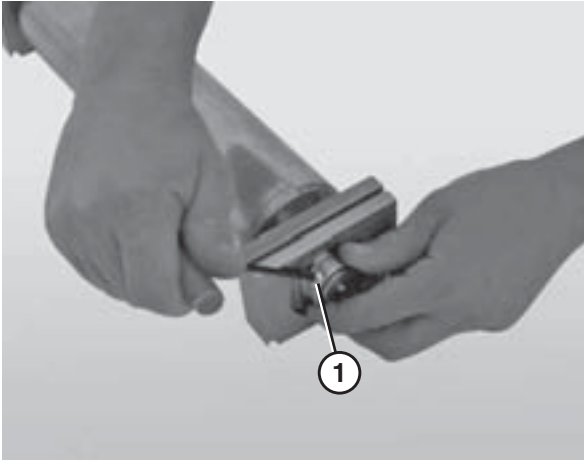

Figure 100
3. Use a 4 mm hex wrench to remove the button head screws that connect the bearing to the spindle (Figure 100, item 1).